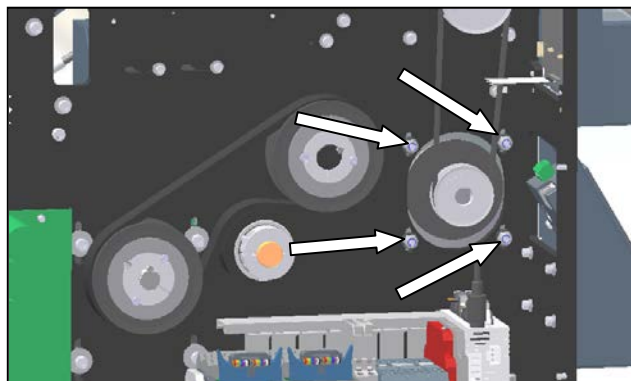

Figure 3-311. File Feed Drive Motor Mounting
- Loosen the four film feed motor mounting screws. Slide the motor upward and remove the belt (Figure 3-311).